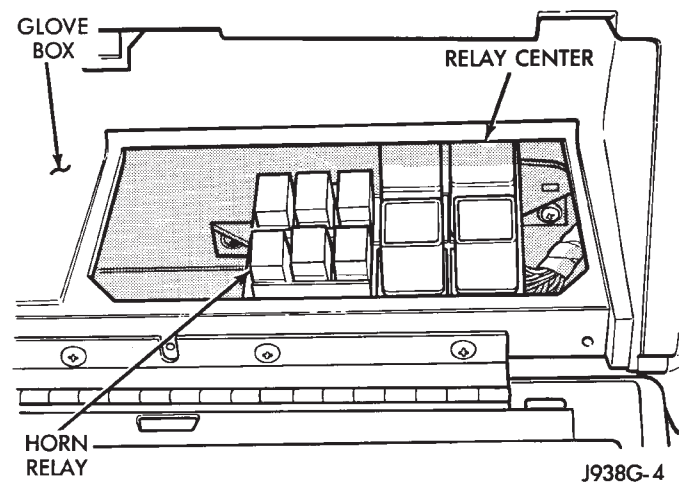

Fig. 5 Horn Relay
(1) Unplug the horn relay from the relay center underneath the glove box (Fig. 5). Plug in a known good relay. If the horns stop blowing, the relay is defective and must be replaced. Should the horns still sound, replace original relay and proceed as follows:
- (2) Remove horn relay (Fig. 5)